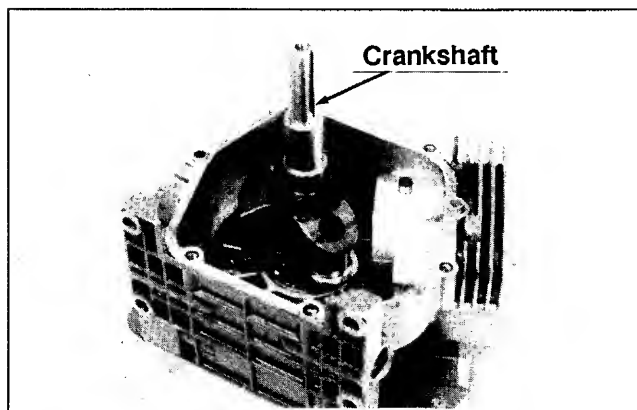

Figure 11-2. Installing Crankshaft.
2. Insert the crankshaft through the flywheel end bearing on CH6 engines with sleeve bearings. If ball bearing used, the crankshaft must be pressed in. See Figure 11-2.